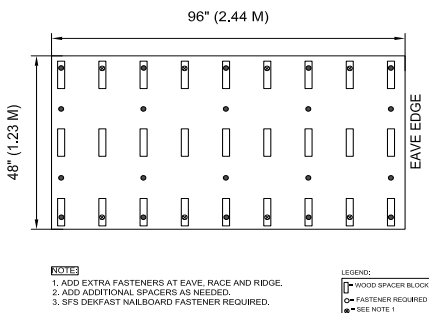

Figure 4
- For panels of overall thickness 6" (152 mm) or more, add 5 additional fasteners per panel for a total of 20 fasteners per panel, as shown in Figure 4.